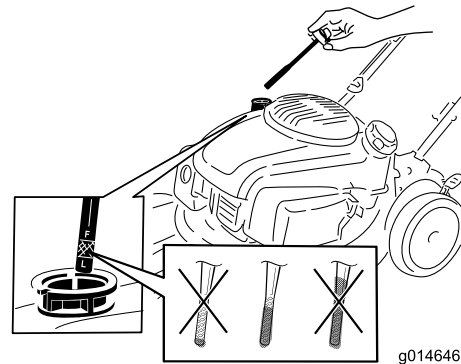

Figure 7
1. Remove the dipstick, wipe it clean, and insert it into the oil filler neck, but **do not** screw it in (Figure 7).
2. Remove the dipstick and check the oil level (Figure 7). If the oil level is below the Add mark on the dipstick, **slowly** pour oil into the oil fill tube to raise the oil level to the Full mark on the dipstick. **Do not overfill.** (Max. fill: 22 oz. (0.65 l), type: 10W-30 or SAE 30 detergent oil with an API service classification of SJ or higher.)